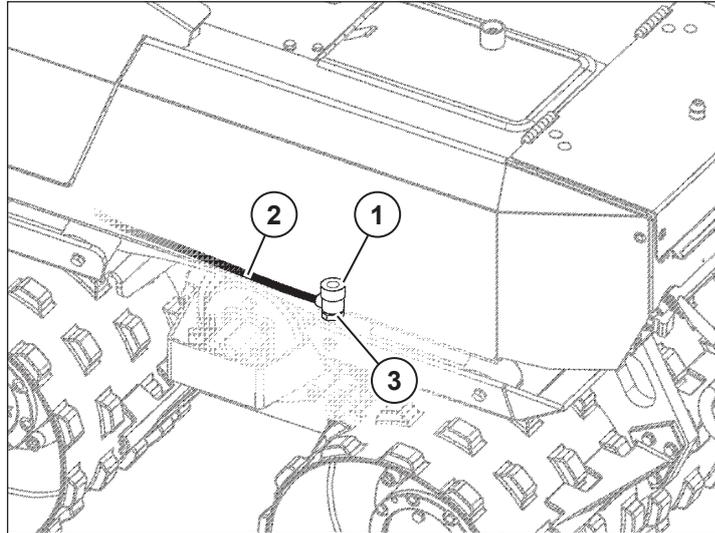

Fig. MW6: Fuel drainage opening
The fuel can be drained out of the fuel tank through the drainage opening (1), i.e. to clean the fuel tank. The drainage opening is located on the left side of the machine at the bottom of the fuel tank (see Fig. MW6).